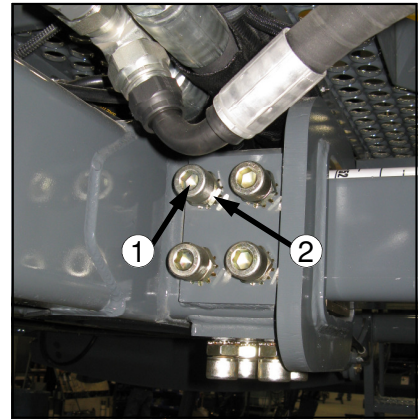

FIG 98-1
HYDRAULIC TREAD ADJUST UNITS— With the engine turned off, visually inspect the tread bearing bolts on both the bottom and side tread adjust bearing plates (fig. 98-1) every 50 hours. Torque check them every 100 hours.
1. Loosen the jam nut (fig. 98-1, item 2) on each tread adjust bearing bolt.